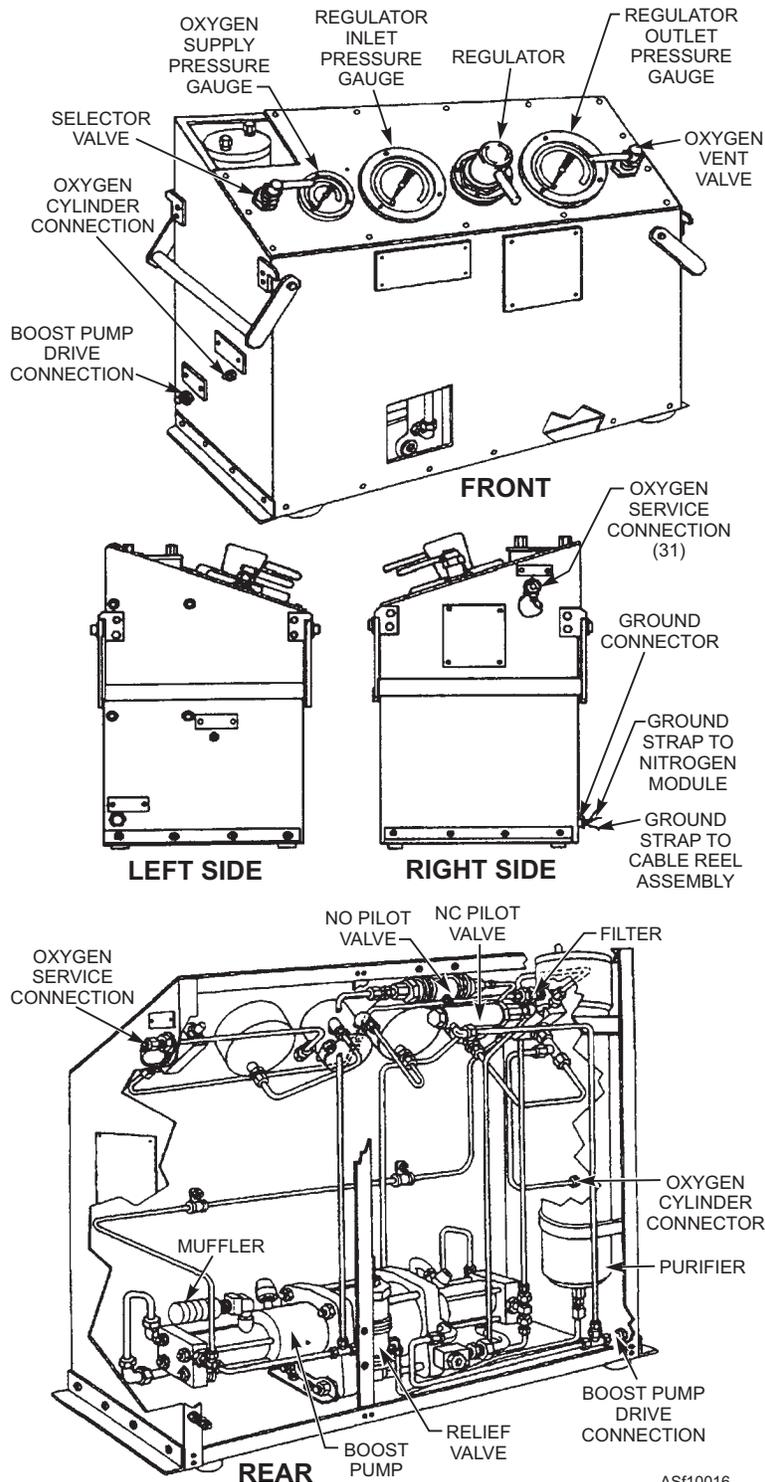
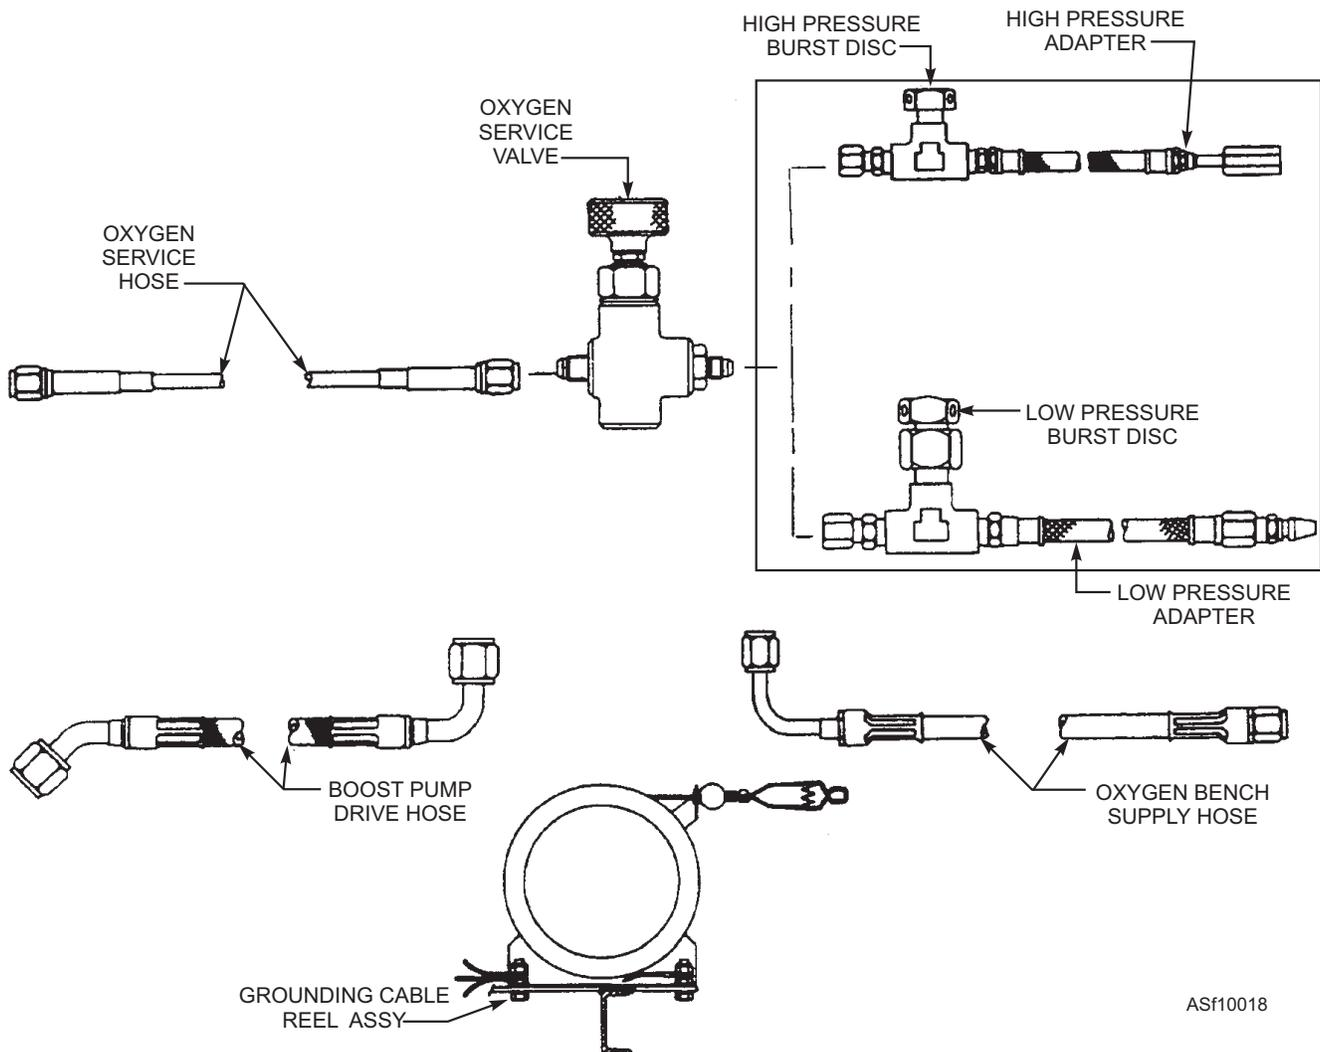

Figure 10-16.—Oxygen module.
Figure 10-18.—Oxygen/nitrogen servicing/interface equipment.
OXYGEN MODULE.—The oxygen module, figure 10-16, transfers the oxygen from the gas storage system by equalizing pressure or by boosting oxygen
cylinder pressure with the boost pump. During aircraft oxygen servicing, the oxygen module is grounded to the nitrogen module and trailer grounding reel. The following components are contained on or within the oxygen module (refer to figure 10-16 to locate the components on the module, and to figure 10-13 to trace oxygen flow):
Oxygen Supply Pressure Gauge.—The oxygen supply pressure gauge (19) indicates the amount of pressure in the oxygen cylinder (2). The gauge is located on the left corner of the oxygen module panel. (See figure 10-16, front view.) The oxygen cylinder valve (4) must be open to read cylinder pressure.
Selector Valve.—The selector valve (20) is a three-position (OFF/BOOST/BYPASS), hand-operated valve that controls oxygen flow to the boost pump (21), or it allows the oxygen to bypass the boost pump. It also provides a means of shutting off the oxygen supply to the servicing system. The selector valve is located on the left side of the oxygen module panel. (See figure 10-16, front view.)
a large area reciprocating air drive piston directly coupled by a connecting rod to a small area gas piston. The gas piston operates in a high-pressure gas barrel section. Each gas barrel end cap contains high-pressure inlet and outlet check valves. (The boost pump serves the same purpose as the pump and motor assembly on the nitrogen servicing unit covered in chapter 9. The internal design and operation of the oxygen boost pump are quite similar to those of the nitrogen servicing unit's pump and motor assembly.) Figure 10-17 shows various features of the boost pump. The boost pump is physically located inside the oxygen module. (See figure 10-16, rear view.)
Pilot Valves.—Two boost pump pressure-operated pilot valves (23) and (24), are located within the oxygen module. (See figure 10-16, rear view.) The pressure operated pilot valve (23) is a normally closed (NC) oxygen module safety device, which prevents the boost pump (21) from operating with a high compression ratio (in excess of 25:1). When the gaseous oxygen supply to the boost pump (21) inlet port falls below 200 psi, the pilot valve (23) closes, shutting off the boost pump drive (nitrogen or compressed air). The pilot valve (23) opens when the oxygen supply pressure to the boost pump (20) exceeds 300 psi.
Relief Valve.—The relief valve (25) vents excess pressure if the boost pump (21) outlet pressure exceeds 2,900 psi. It is located inside the oxygen module. (See figure 10-16, rear view.)
Purifier.—The purifier (26), located inside the oxygen module (figure 10-16, rear view), removes moisture and other contaminant from the oxygen entering the servicing line. The purifier assembly is identical in appearance to the purifier used on the nitrogen servicing unit; however, it is not interchangeable. Always use only the item (part number) specified in the maintenance manual.
Filter.—The filter (27) traps foreign matter not removed by the purifier. It is a 10-micron, replaceable element filter located underneath the panel of the oxygen module. (See figure 10-16, rear view.)
Oxygen Vent Valve.—The oxygen vent valve (28) provides a means of venting gas pressure upstream of the regulator (30). It is a two-position (OFF/VENT) valve located on the upper right corner of the oxygen module control panel. (See figure 10-16, front view.)
Regulator Inlet Pressure Gauge.—The regulator inlet pressure gauge (29) displays the pressure at the inlet side of the oxygen regulator. It is located to the right of the oxygen supply pressure gauge on the oxygen module control panel. (See figure 10-16, front view.)
Pressure Regulator.—The pressure regulator (30) controls the pressure of the gas delivered to the servicing line. It is located to the right of the regulator inlet pressure gauge on the oxygen module control panel. (See figure 10-16, front view.)
Regulator Outlet Pressure Gauge.—The regulator outlet pressure gauge (31) displays the pressure at the outlet side of the oxygen regulator. It is located to the right of the pressure regulator on the oxygen module control panel. (See figure 10-16, front view.)
Oxygen Service Connection.—Located on the right side of the oxygen module, the oxygen service connection (32) provides a means of attaching a servicing hose to the servicing unit. (See figure 10-16, right side view.)
SERVICING AND INTERFACE EQUIPMENT.—The servicing and interface equipment consist of those parts required to connect the oxygen servicing unit to the aircraft oxygen storage system and includes the grounding cable reel assembly. The interface equipment consists of connecting hoses between the oxygen/nitrogen modules that convey air or nitrogen to drive the oxygen boost pump. The servicing and interface equipment include the following items: (See figure 10-18.)
4. Attach the servicing hose and valve with the appropriate servicing adapter (figure 10-18) to the oxygen service connection on the oxygen module. (See figure 10-16, right side view.)